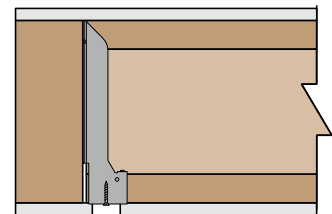

Figure 3
- Draw the joist down into the hanger with a single #8x1¼" screw (Figure 3).